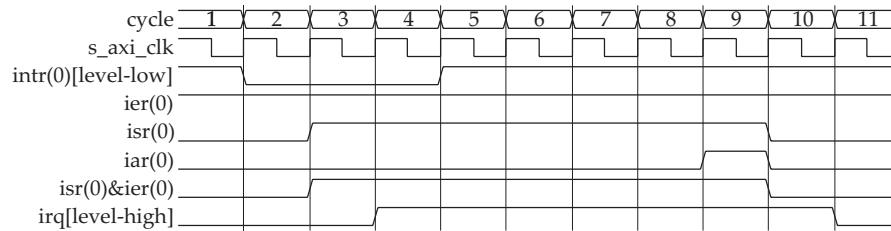

Figure 17: Input Intr - Level Sensitive (Active Low) and Output Irq - Level Sensitive (Active High)
- Configured Input Interrupt (Intr) for Level sensitive (active Low) and Output Interrupt Request (Irq) to Level sensitive (active High) and is shown in Figure 17.